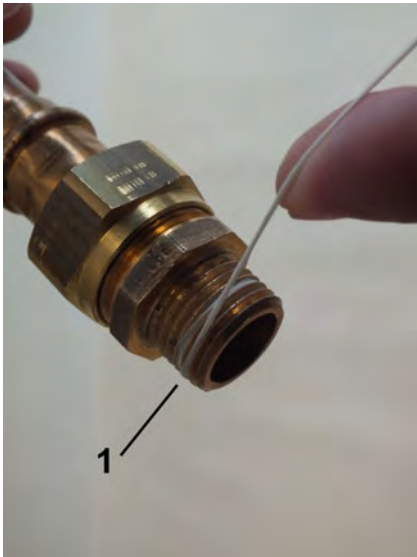

Fig. 9: Apply sealing thread
2. ➔ Apply sealing thread (Fig. 9/1) to the napped area in the threaded direction. Observe the quantity recommended by the sealant manufacturer.